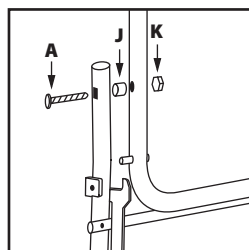

Fig. 5
- Attach component **4** to **3** using the fixings labelled **A, J** and **K**. Do not over tighten. Repeat on the other side. **(Fig. 5)**. Note the position of the spacers **J** which are required to provide the necessary clearance for the frame to operate.